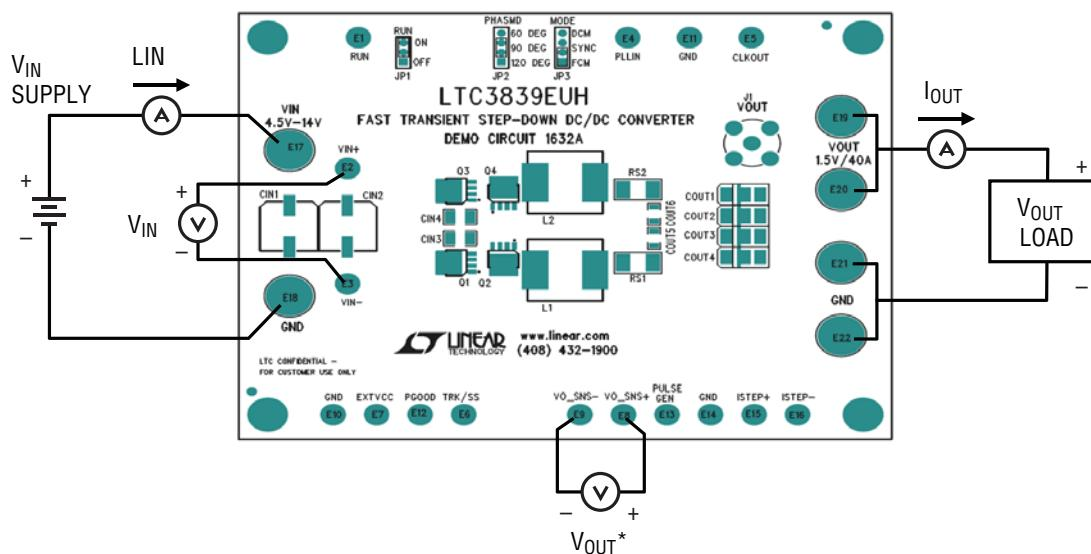

Figure 1. Proper Measurement Equipment Setup
Demonstration circuit 1632A is easy to set up to evaluate the performance of the LTC3839EUH. Please refer to Figure 1 for proper measurement equipment setup and follow the procedure below.
- 1) With power off, connect the input supply, load and meters as shown in Figure 1. Preset the load to 0A and V_{IN} supply to 0V. Place jumpers in the following positions: